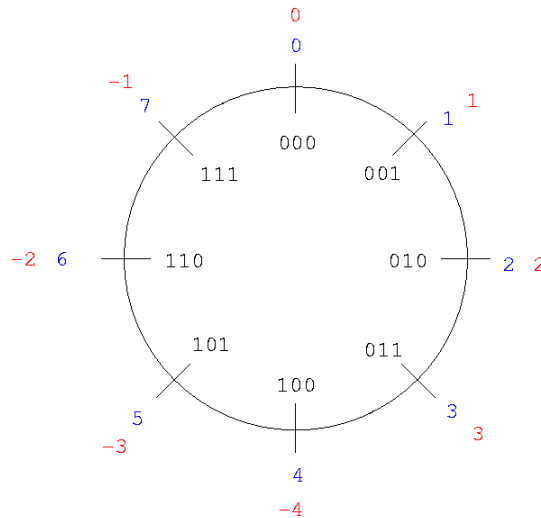

Figure 1: Mapping of negative numbers to positive numbers in 3-bit representation.
- The 8-bit output **Y** [Y7..Y0] will be used to display decimal numbers corresponding to the binary representation of X. Only one bit of Y is set at a time. For instance, Y0 corresponds to 0, and Y5 corresponds to 5 (or -3, please see Figure 1).